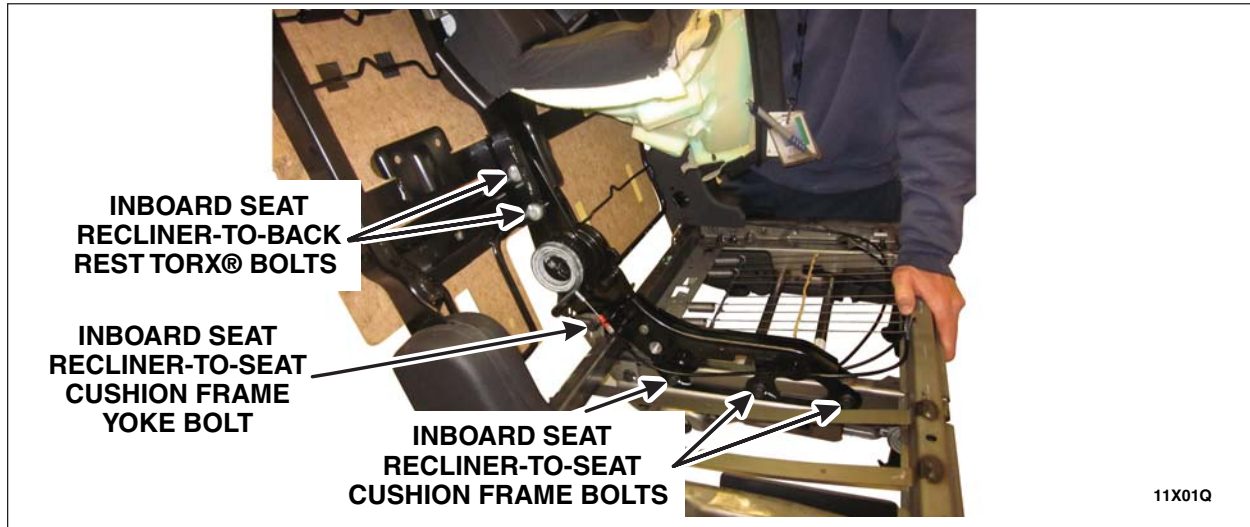

FIGURE 14
31. Remove the 2 inboard seat recliner-to-seat backrest Torx® bolts. See Figure 14.
32. Remove the 3 inboard seat recliner-to-seat cushion frame bolts and the inboard seat recliner-to-seat cushion frame yoke bolt. See Figure 14.
Install the 3 inboard seat recliner-to-seat cushion frame bolts and the inboard seat recliner-to-seat cushion frame yoke bolt. Do not tighten at this time. See Figure 14.
39. Install the 2 inboard seat recliner-to-seat backrest Torx® bolts. Do not tighten at this time. See Figure 14.